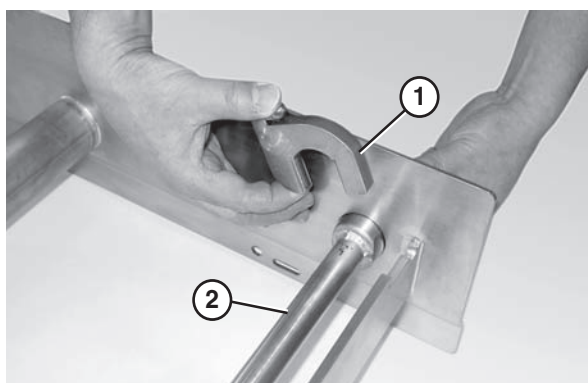

Figure 19
2. Attach the key stops (**Figure 19, item 1**) to the tip up shaft (**Figure 19, item 2**). The rounded end of the key stop should be facing the tail.